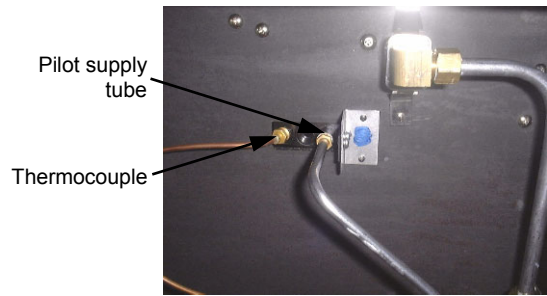

Figure 6.3.9
- 2) Remove the pilot supply tube from the pilot burner (refer figure 6.3.9).
- 2) Unscrew the thermocouple from the gas control and the pilot burner (refer figure 6.3.9).